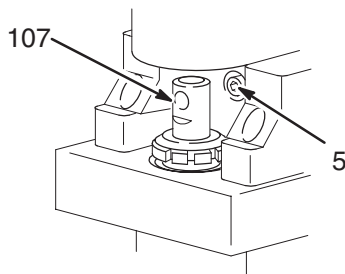

Fig. 24
2. Remove the pressure control (64). See page 27.
3. Turn the displacement pump rod (107) so the pin hole aligns with the bottom drive housing screw (5). See Fig. 24. Remove the three drive housing screws (5). Also see Fig. 25 on page 26.